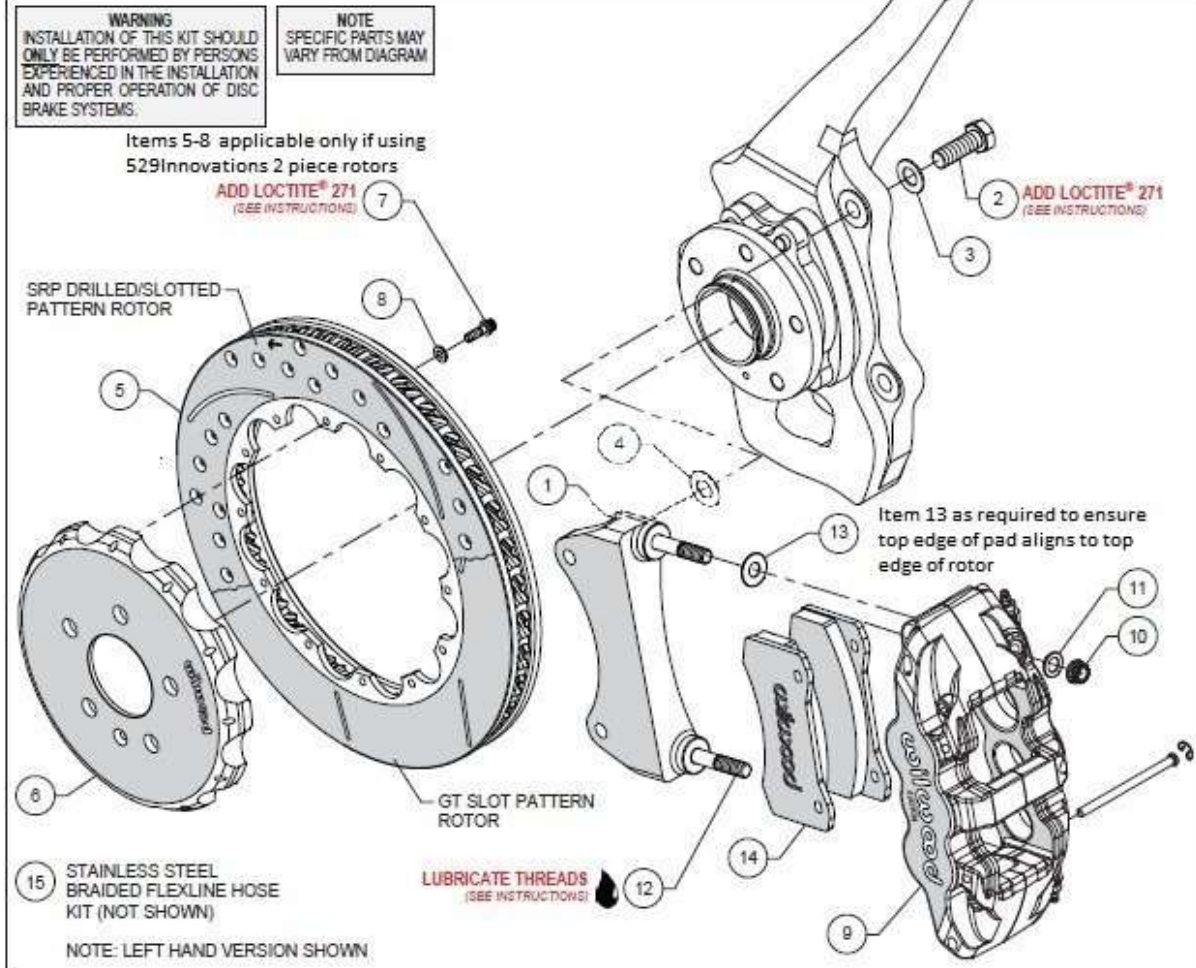
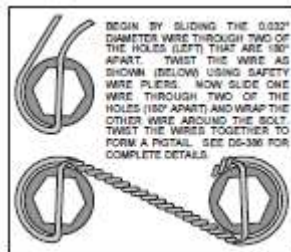

Figure 1. Typical Installation Configuration
Figure 3. Safety Wire Diagram
(Numbers in parenthesis refer to the parts list and Figure 1 on the preceding pages):
• The caliper mount bracket (1) should initially be installed with clean, dry threads on the mounting bolts. Orient the bracket as shown in Figure 1 and Photo 1, and install using bolts (2) and washers (3). If supplied with your kit Initially place one .029 thick shim (4) on each bolt between the bracket and upright, Figure 1. Temporarily tighten the mounting bolts.
- Orient the rotor (5) and the hat (6) as shown in Figure 1 and Photo 2. Attach rotor to hat using bolts (7) and washers (8). Using an alternating sequence, apply red *Loctite*® 271 to the threads, and torque to 155 **in-lbs**. For an added measure of security, the bolts may be safety wired using standard 0.032 inch diameter stainless steel safety wire as shown in Figure 3. Please refer to Wilwood's data sheet DS-386 (available at www.wilwood.com/Pdf/DataSheets/ds386.pdf) for complete safety wire installation instructions.
NOTE: This kit contains distinct right and left hand calipers that must be mounted in a specific direction, as described below. Lubricate the caliper mounting studs (12) with lightweight oil. Initially place one .030" thick shim (if supplied) (13) on each stud between the caliper and the bracket, as shown in Figure 1 and Photo 5. Mount the caliper (9) onto the bracket (1) using lock nuts (10) and washers (11), Figure 1. Ensure that the caliper is mounted so the largest pistons are at the rotor exit end of the caliper, in relation to the direction of rotor rotation. Temporarily tighten the nuts and view the rotor through the top opening of the caliper. The rotor should be centered in the caliper, Photo 6. If not, adjust by adding or subtracting shims (4) between the bracket and the upright. Always use the same amount of
- Remove the two pad retaining pins from the caliper (9) by carefully popping out the pin retaining clips and sliding out the pins. Insert the brake pads (14) into the caliper from the bottom, Figure 1 and Photo 7. With the friction material facing the rotor, secure the brake pads in place with the pad retaining pins and clips, Photo 8. Reinstall the caliper onto the caliper mounting bracket and temporarily tighten the lock nuts (10). Check that the top of the brake pad is flush with the outside diameter of the rotor, Photo 9. If not, adjust by adding or subtracting shims (13) between the caliper and the bracket. After the caliper pad height is set, torque the caliper lock nuts (10) to 47 ft-lb.
*The caliper inlet fitting is a 1/8-27 NPT. Install the stainless steel braided flexline hose kit (15), included with this kit. **Carefully route hoses to prevent contact with moving suspension, brake or wheel components.***